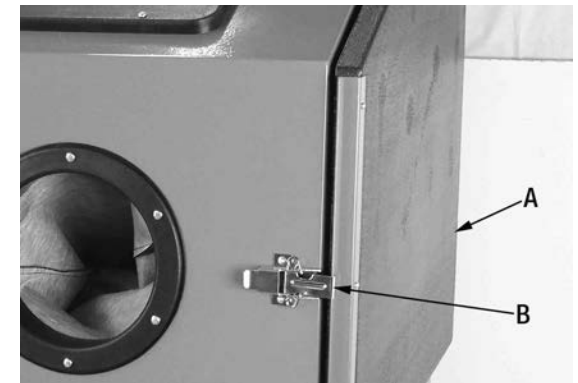

FIGURE 14
- 6) Close and secure both side doors (A) Fig.14 using the locking latches (B) .